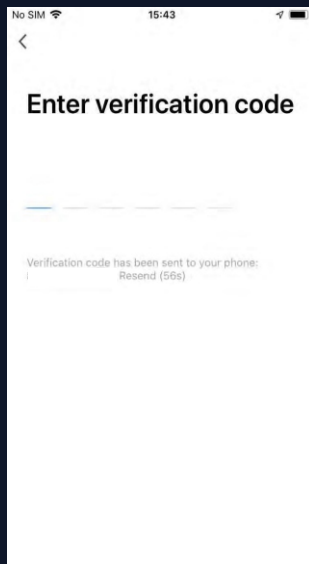

Fig. 3
3. Enter the authentication code sent to your mobile phone number or email, as shown in Fig. 3.